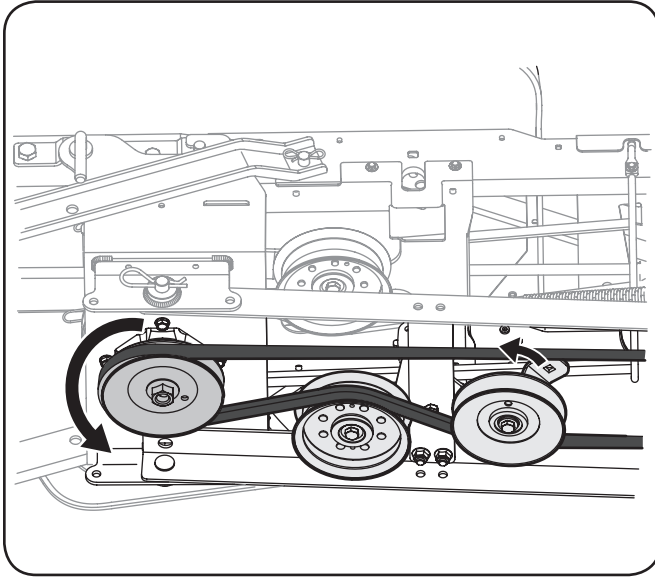

Figure 3-26
6. Route the auger assembly's belt around the carriage spindle pulley as shown in Figure 3-26.